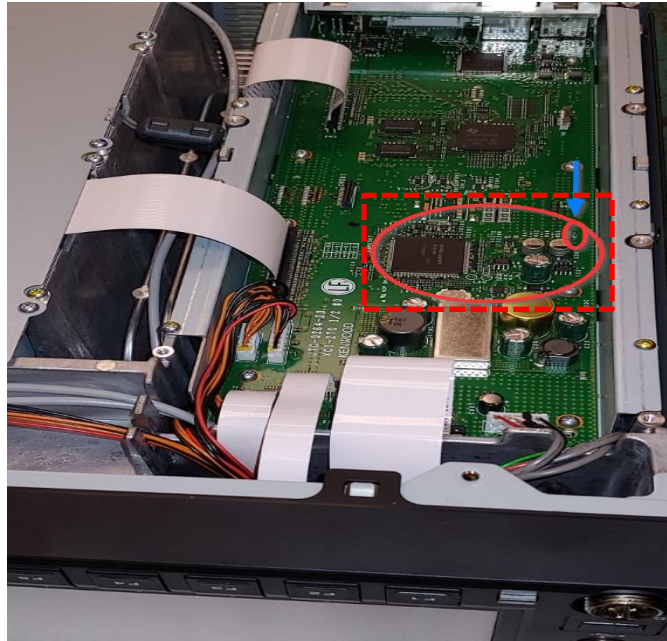

Figure 1
3. Remove the bottom (6) and side (6) case screws. That's a total of 12 screws that need to be removed and set aside in a small container.
7. Locate R55 on the control unit (see figures 1 & 2).